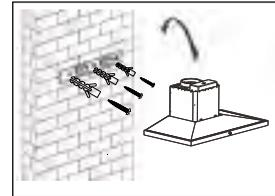

Fig. 7
Wall mounting (Fig. 7 & 8 & 9)
- Before attaching hood body to wall, adjust the 3 (three) screws located on the hood body mounting points. (Fig.7)
- Fix the hood body to wall using 2 (two) ST4 x 30 screws provided. Tighten screws firmly. (Optional lock for E point) (Fig. 7).